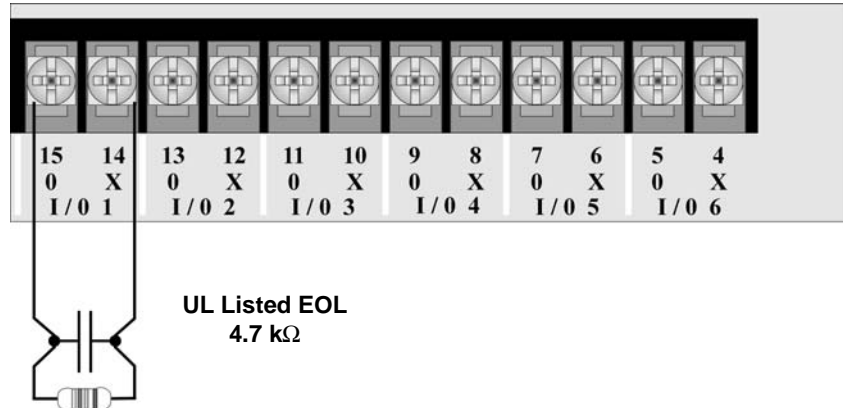

Figure 3-10 Class B Input Switches
1. Wire the Class B switch as shown in Figure 3-10.